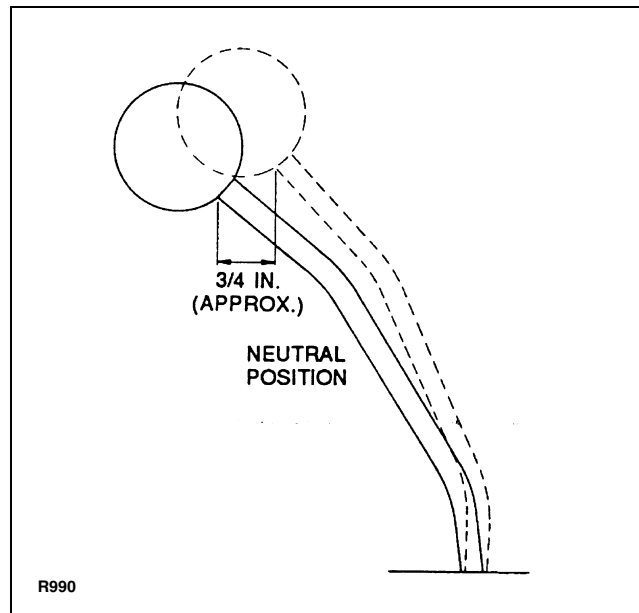

Figure 6-5 Lift Control Valve Adjustment Position
3. Use the point where the lift control knob (11) and handle (10) meet as a reference point. Push the handle 3/4 inch from the neutral position. See Figure 6-5.
4. Place a screwdriver blade in the slot of the release cam (3) and rotate the cam 1/8 inch clockwise. This ensures that the check ball (14) is seated in the valve seat.